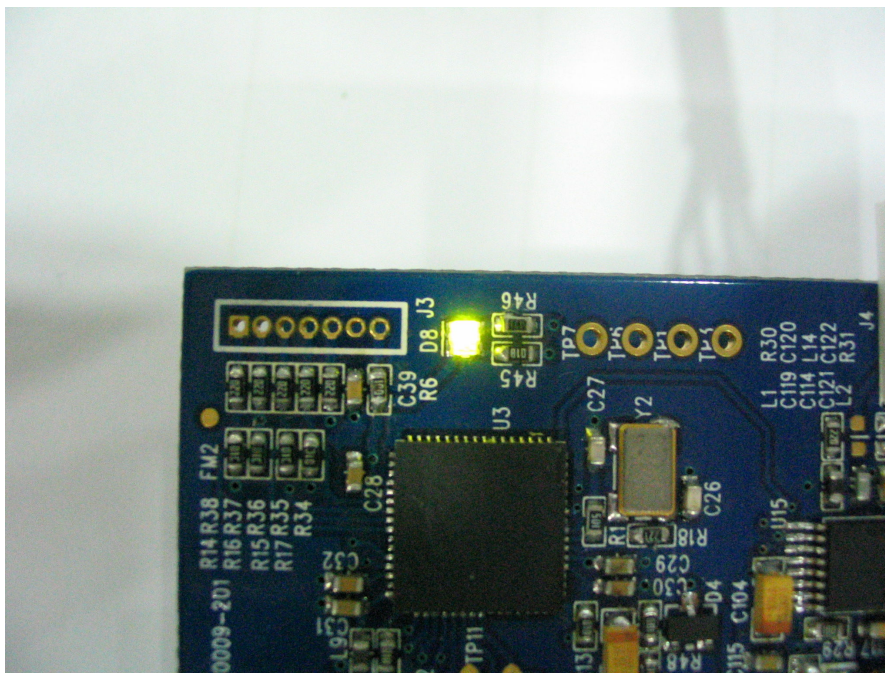

Figure 1-6 Active Green LED on power up.
- Thereafter, the green LED will light for a long duration as illustrated in Figure 1.6, and then turn off.